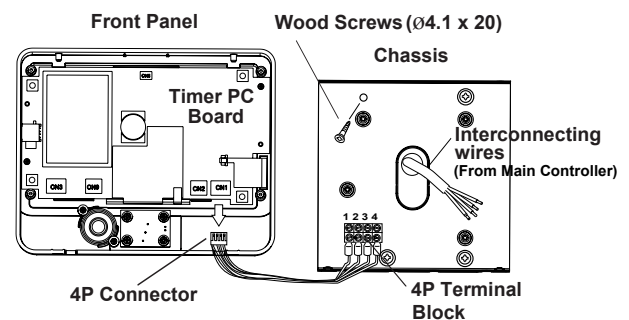

Fig.3-20 Attaching Sub Controller Chassis
2. Disconnect the 4P connector from the timer PC Board. (Fig.3-20)
3. Route the interconnecting wires from the main controller through access hole of chassis and mount on the wall with four (ø4.1 x 20mm) wood screws. (Fig.3-20)
6. Reattach the 4P connector to the timer PC Board. (Fig.3-20)